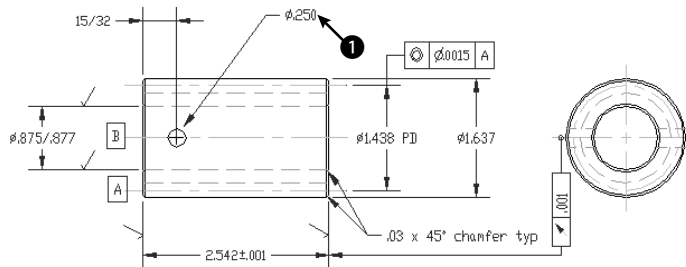

**Figure 15-40:** A mechanical drawing using geometric tolerances.
2. Save the file as `ab15-06.dwg` in your AutoCAD Bible folder. This drawing of a gear operator is shown in Figure 15-40. The Dim layer is current. If the Dimension toolbar is not visible, right-click any toolbar and choose Dimension.
7. At the Enter tolerance location: prompt, pick **1** in Figure 15-40 to place the geometric tolerance.